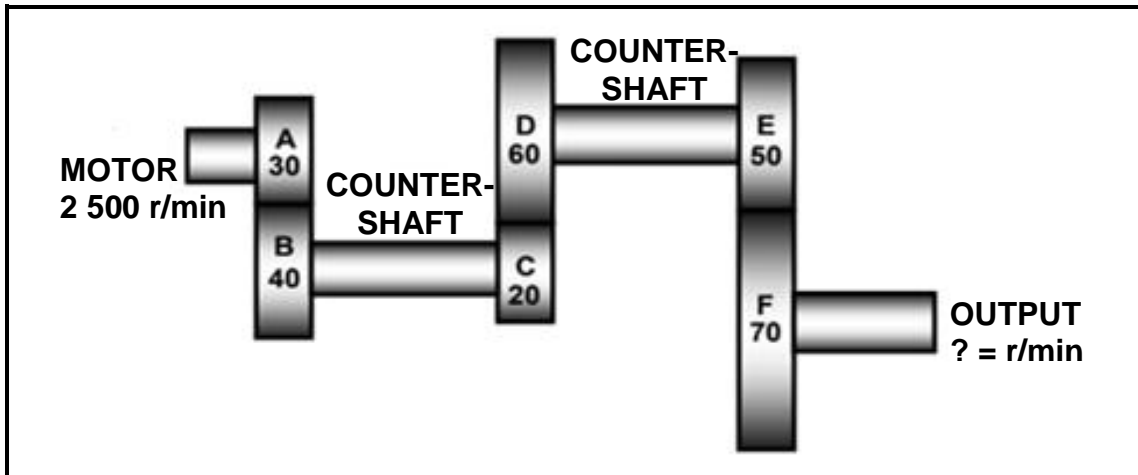

FIGURE 11.6
- 11.6 FIGURE 11.6 shows a gear drive system. Gear **A** on the shaft of the motor has 30 teeth that mesh with gear **B** with 40 teeth on the countershaft. On the countershaft is another gear, **C**, with 20 teeth that mesh with gear **D** with 60 teeth on a second countershaft. The second countershaft has gear **E** with 50 teeth that mesh with gear **F** with 70 teeth. Gear **F** is connected to the output shaft. Answer the questions that follow.